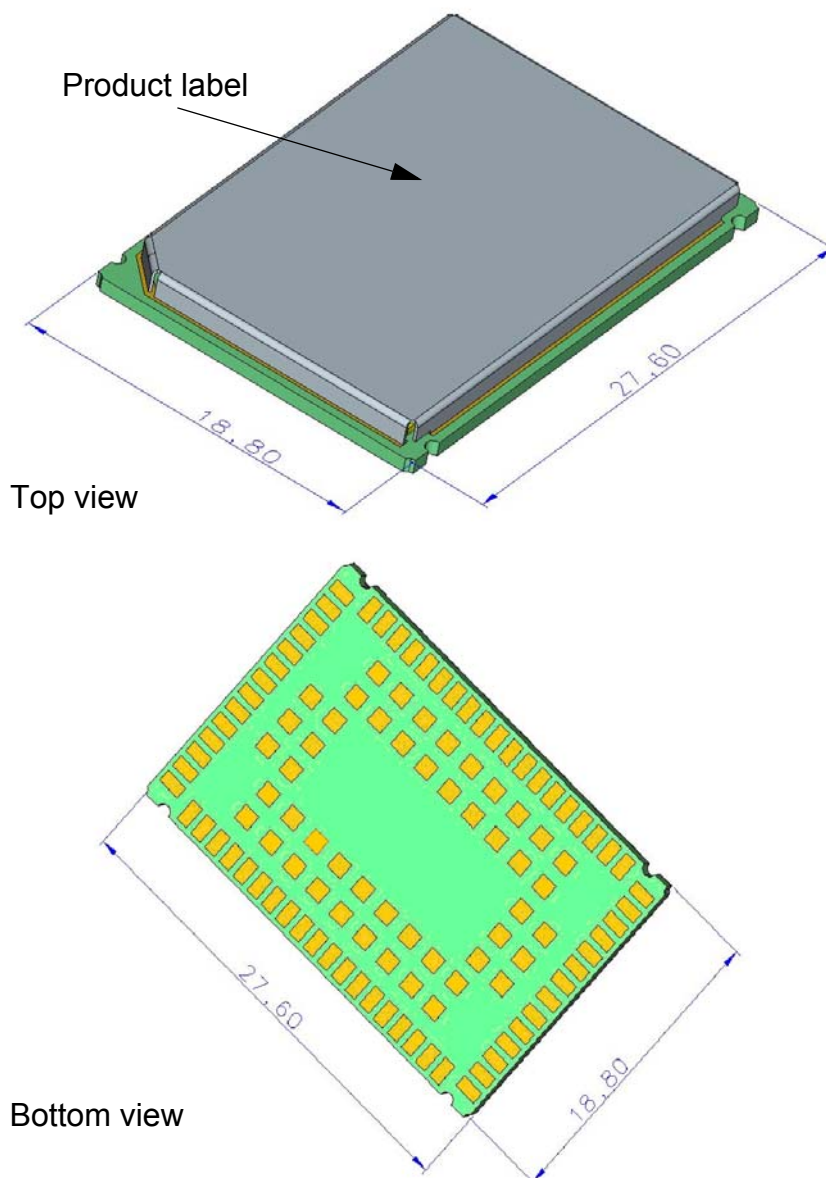
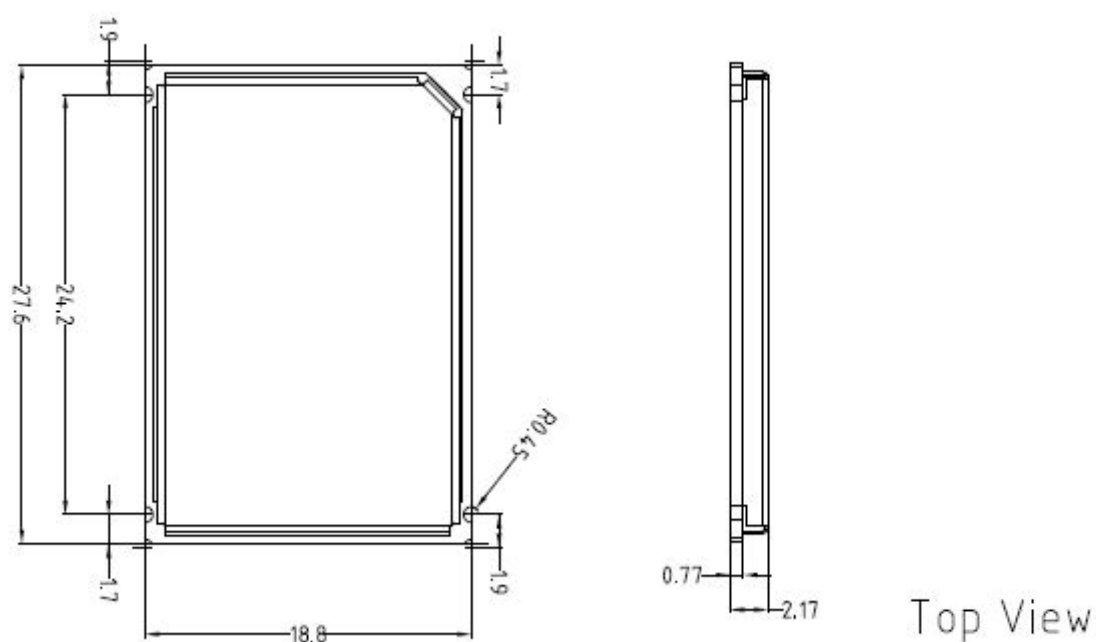
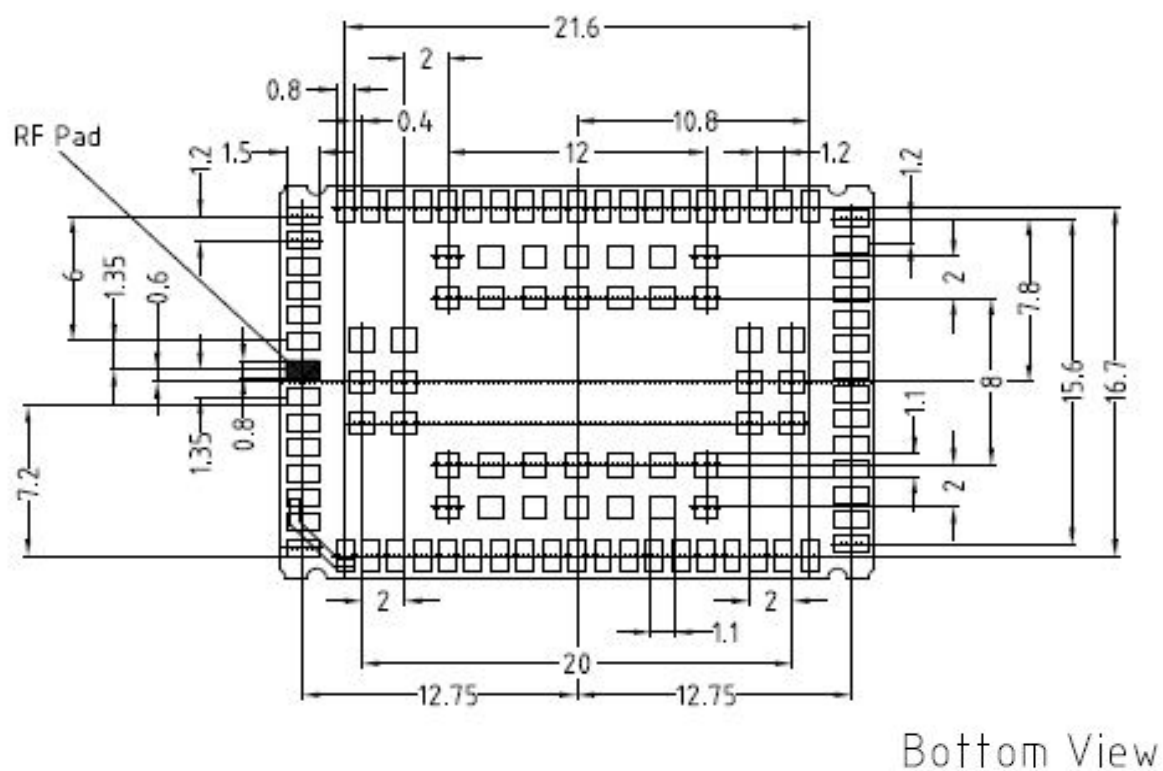

Figure 6: EMS31-V - top and bottom view
Figure 7: Dimensions of EMS31-V (all dimensions in mm)
Figure 8: Dimensions of EMS31-V (all dimensions in mm) - bottom view
Figure 6 shows the top and bottom view of EMS31-V and provides an overview of the board's mechanical dimensions. For further details see Figure 7.
4.1	Replaced old Figure 7 and Figure 8 to up-to-date figures.